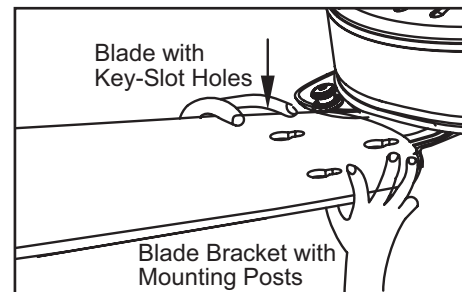

Figure 13a
1. Mount the fan blades to the pre-installed blade brackets by aligning the three key-slot holes in the blade with the three posts on top of the blade bracket (Figure 13a).